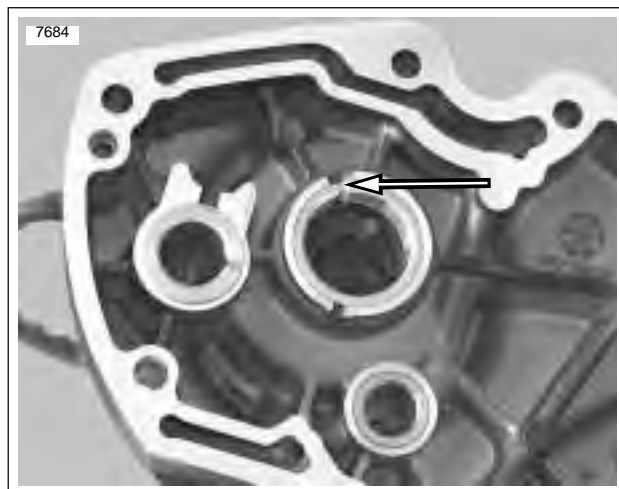

Figure 3-110. Intake Cam Gear Bushing Installed in Gearcase Cover with Bushing Slot In Correct Location
1. See Figure 3-110. Position bushing over bore of gearcase cover with chamfered edge downward and slot upward. Align slot in bushing with slot in gearcase cover boss. Press bushing into cover bore until bushing is flush with cover boss.